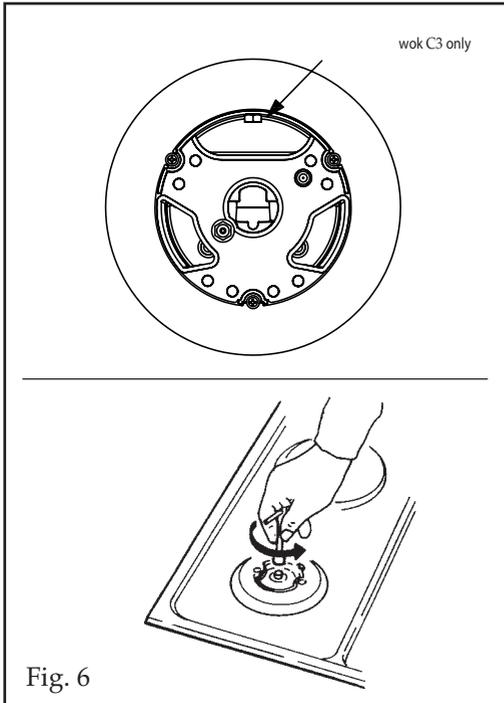

Fig. 6
- to adjust to the minimum, use a screwdriver on the screw placed on the tap (Fig. 6) after turning the tap to its minimum position. For ULPG (butane/propane) screw tight.